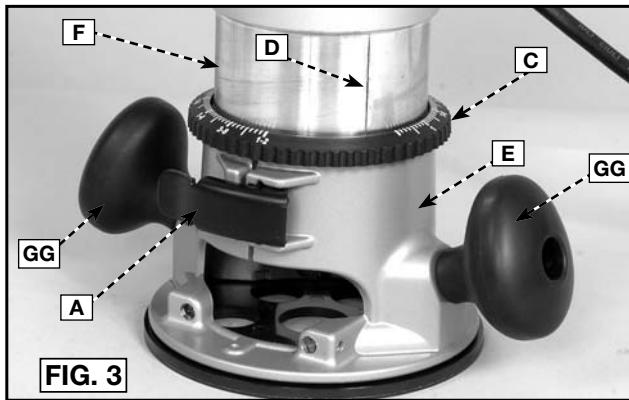

FIG. 3
GRIPPING LOCATIONS (FIG. 3, 16, 18)
1. Open the clamp (A) Fig. 3.
2. Hold the base (E) and turn the power unit (F) Fig. 3 counter-clockwise until the tip of the bit is above the bottom of the base.
4. Turn the power unit (F) Fig. 3 clockwise until the bit touches the work.
5. Close the clamp (A) Fig. 3.
6. Rotate the depth adjusting ring (C) Fig. 3 until the zero-line is opposite the index line (D) on the housing.
7. Open the clamp (A) Fig. 3.
8. Tip the router so that the bit is clear of the work surface. Turn the power unit (F) Fig. 3 clockwise until the index line (D) on the motor housing reaches the desired depth indicated on the ring.
9. Close the clamp (A) Fig. 3.